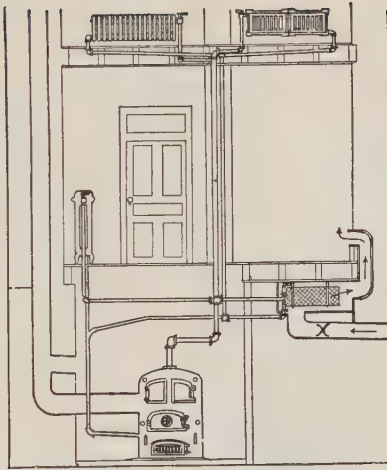

FIGURE 170.—STEAM HEATING SYSTEM.
**116. Steam Heating.** — Large buildings and many small houses are heated by steam systems (Figure 170). A boiler partly full of water is used instead of the full tank in the hot-water system. When the water in the boiler is heated to boiling, the pressure of the steam forces the steam up the riser pipes to the radiators, where it gives off its heat of vaporization (§ 130), condenses, and returns as water either by the riser pipes or by separate return pipes. Steam systems are cheaper to install than hot-water systems, for they require less boiler capacity, smaller radiators, and not necessarily a return pipe. In the steam system the distribution of heat is also somewhat more certain than in the hot-water system.